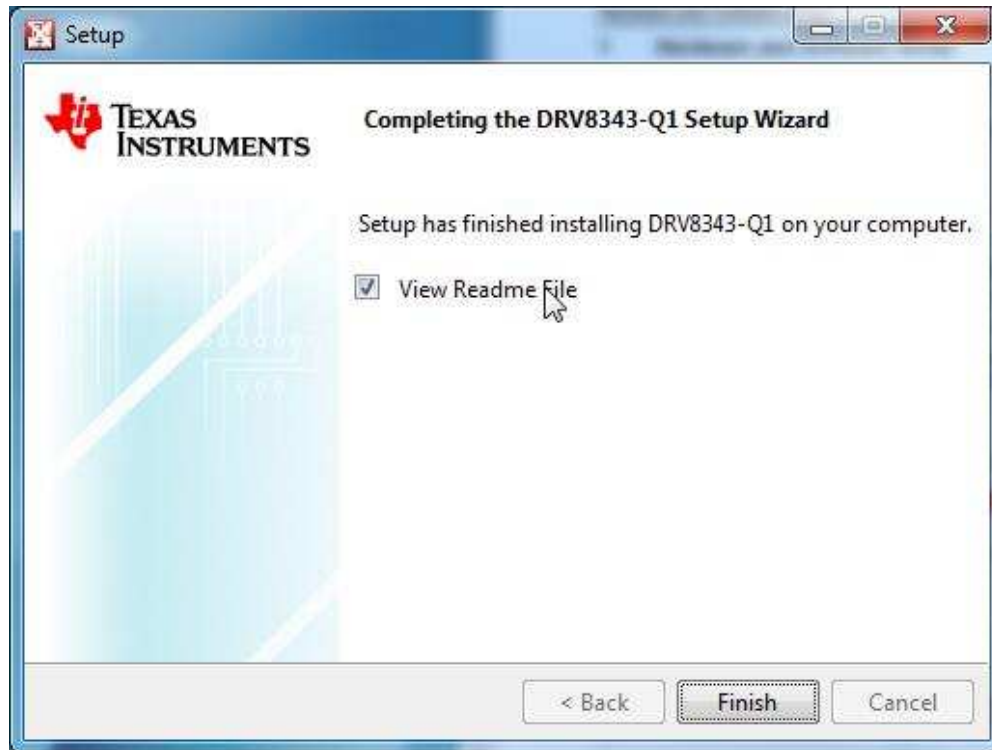

Figure 32. GUI Setup Complete
Step 7. Click the *Finish* button when the files are successfully installed in the destination folder (see Figure 32).